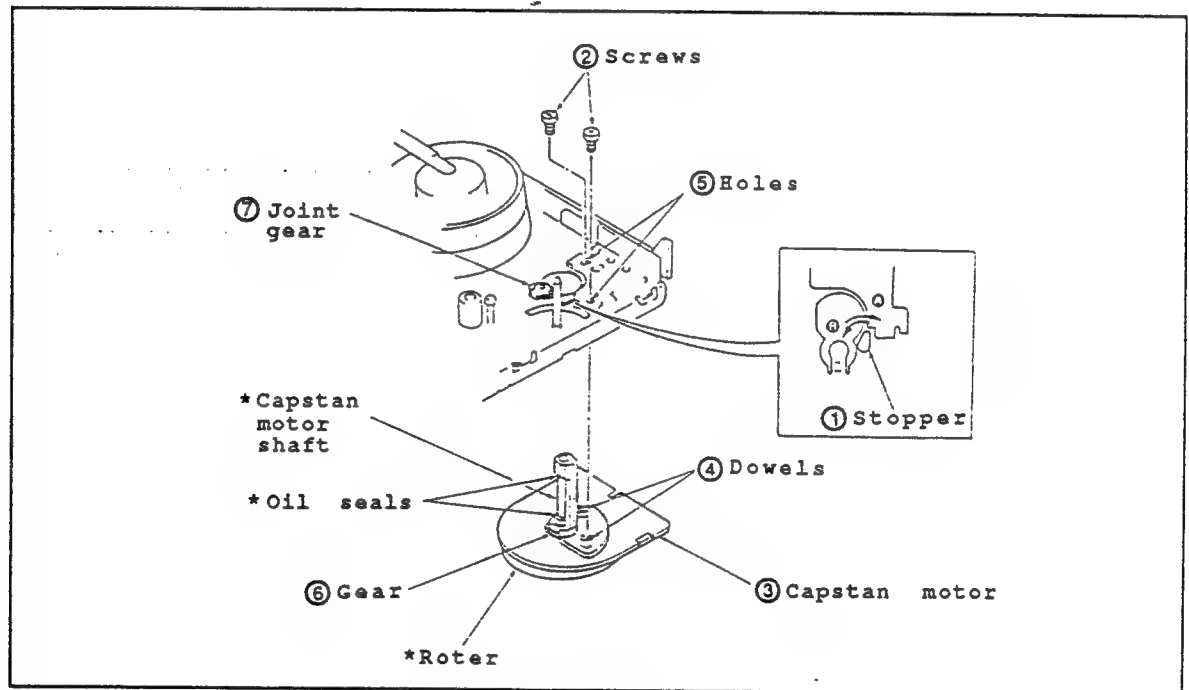

Fig.II-9
- Disassembling (Fig.II-9)
- (1) Set the unloading state.
- (2) Rotate the stopper ① in direction ④ until it comes to an end.
- (3) To take out the capstan motor ③, remove the two set screws ②.
- Reassembling (Fig.II-9)
- (1) Align the two dowels ④ with the two holes ⑤ to match the gear section ⑥ with the connecting gear ⑦.
- (2) Secure the capstan motor ③ with the two set screws ②.
- (3) Rotate the stopper ① in direction of ⑧ until it comes to an end.
*Notes: 1. Do not match the gear section ⑥ and the connecting gear ⑦ forcibly to prevent the cam grooves damaging.